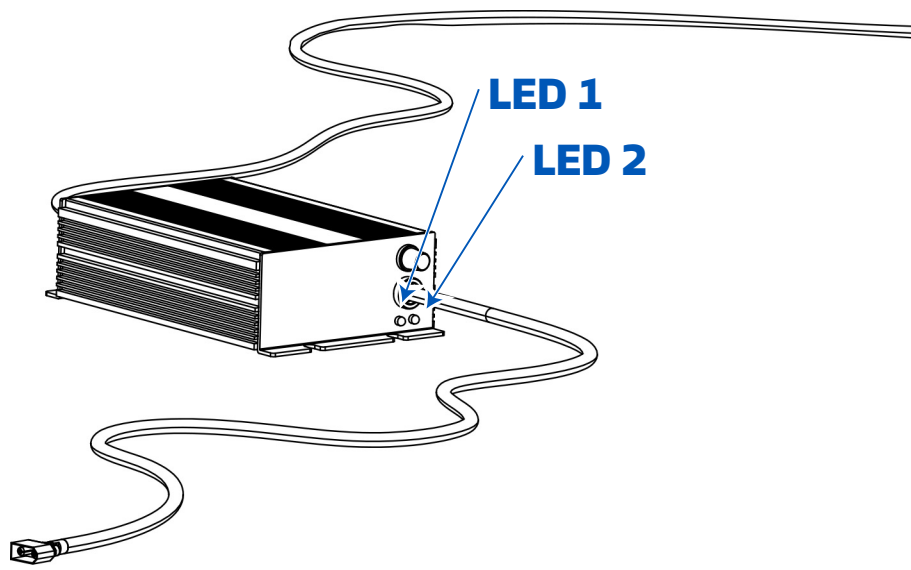

Fig. 25
1. The charger cable must be plugged into the household mains (Figure 24a). At this point, LED 1 on the charger will be red and LED 2 will be green (Figure 25).
- 2- Next, turn the quick-release screw located on the top (Figure 25). Remove it without actually removing it from the upper casing, in order to remove this component from the frame.